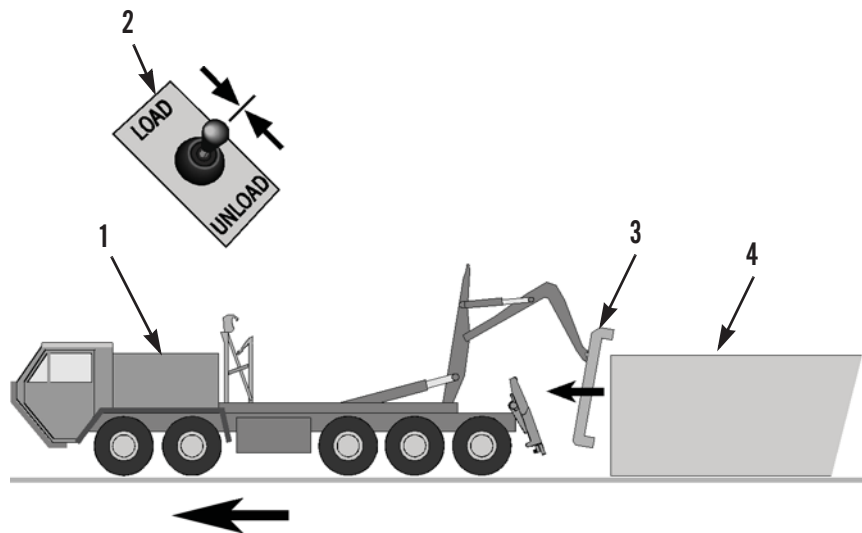

Figure 28. Separate Lift Frame from Container.
2. Keeping engine at idling speed (PLS: TM 9-2320-364-14&P, HEMTT: TM 9-2320-326-14&P), drive vehicle (Figure 28, Item 1) forward approximately 2 ft (0.6 m) to separate lift frame (Figure 28, Item 3) from container (Figure 28, Item 4).